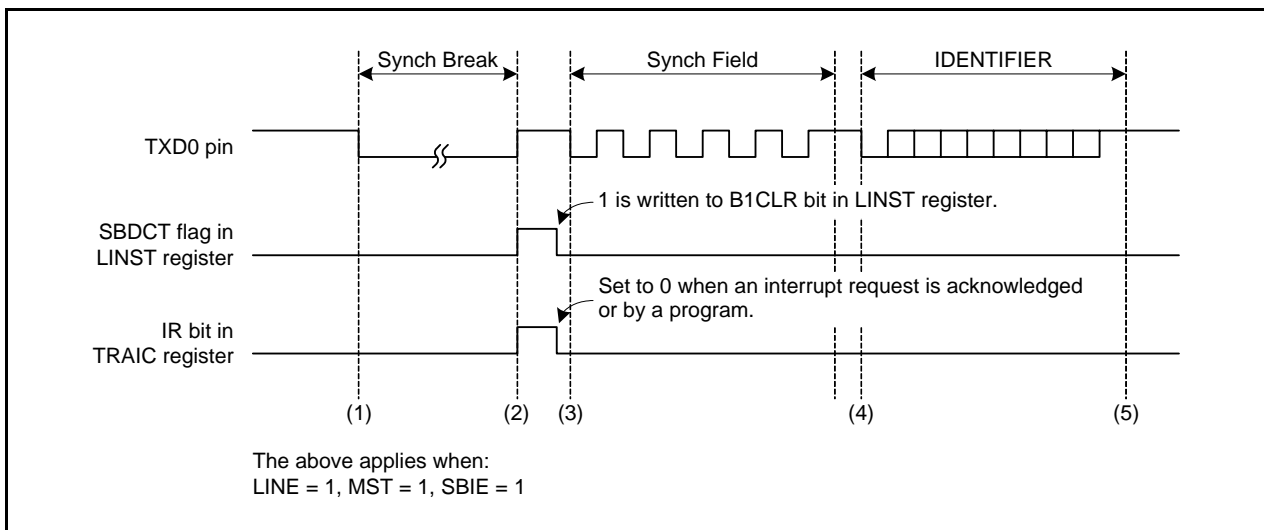
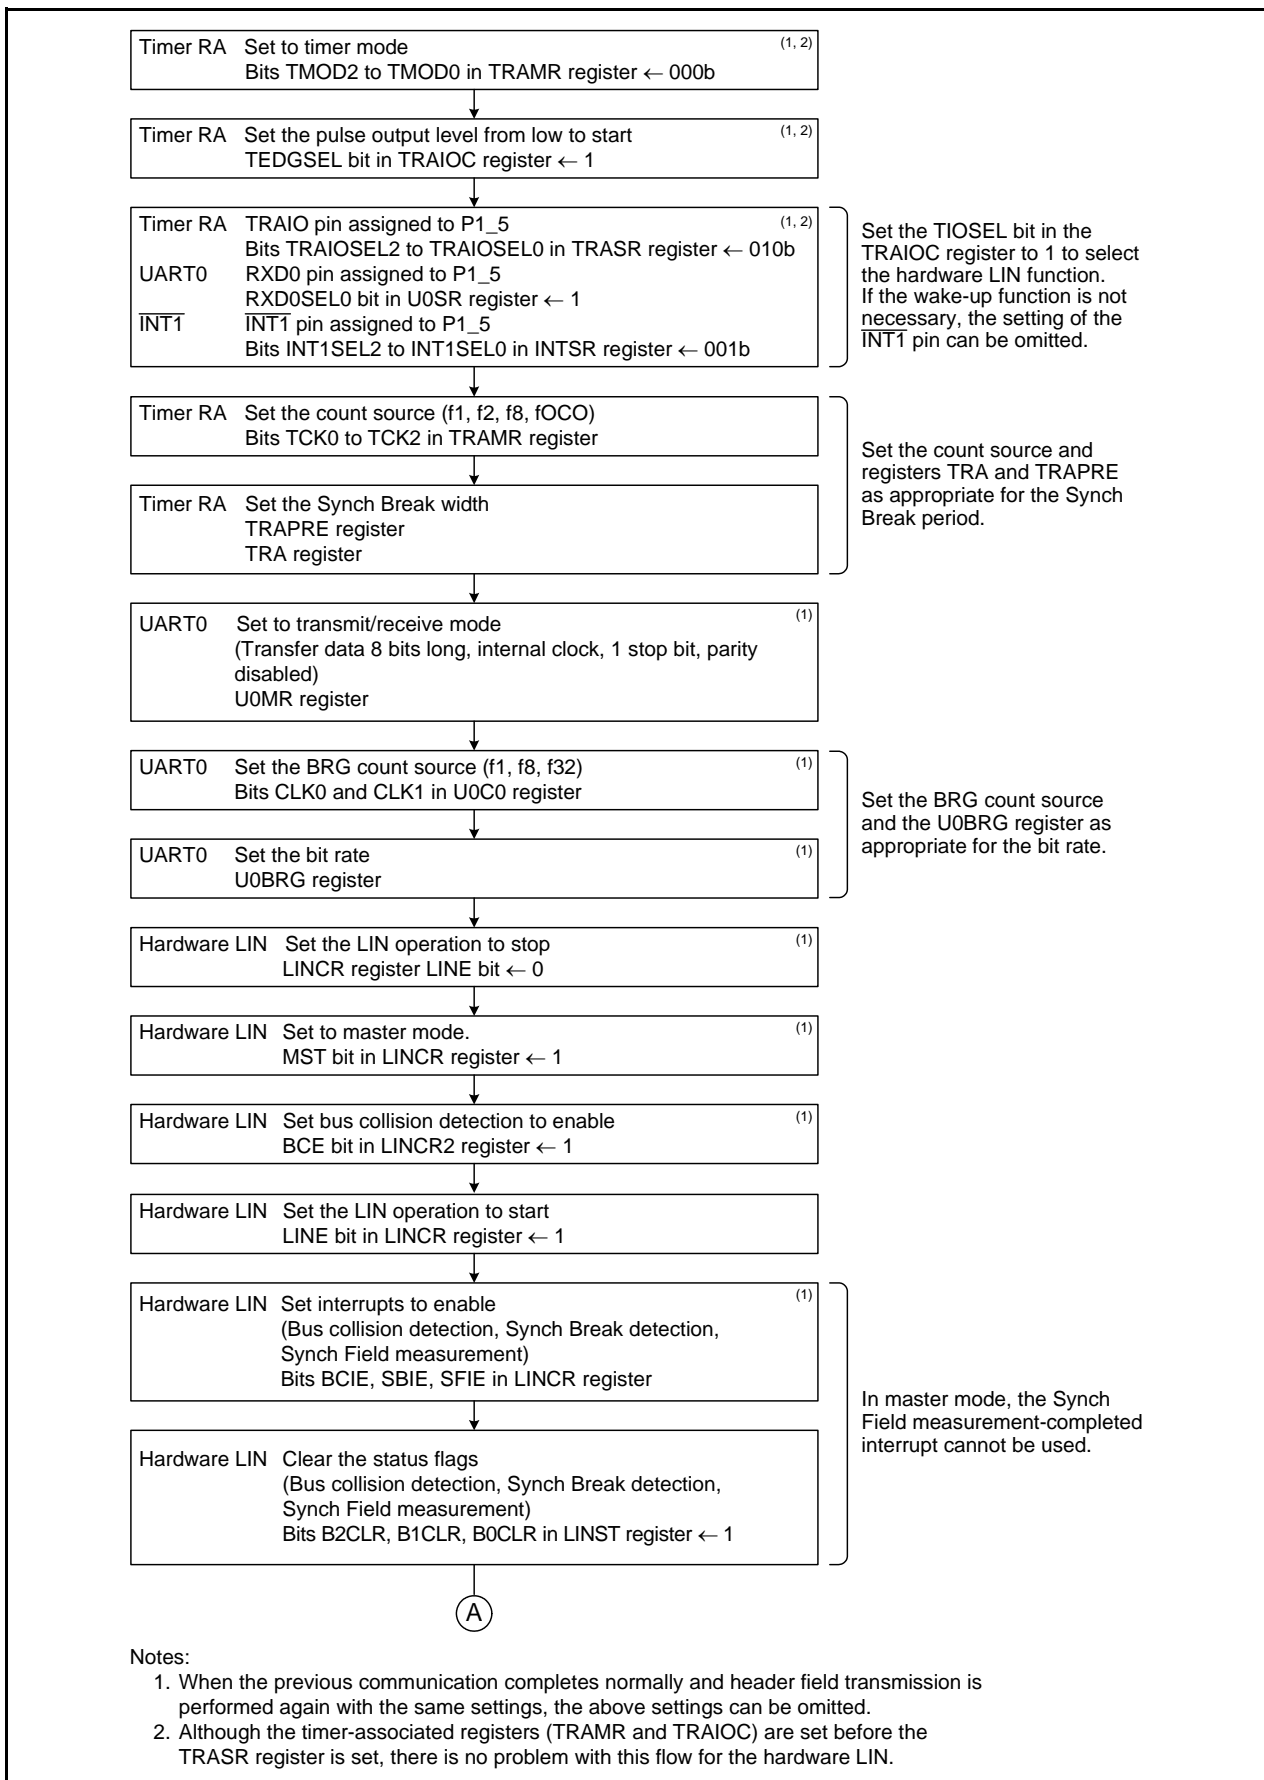

Figure 29.2 Operating Example during Header Field Transmission
Figure 29.3 Header Field Transmission Flowchart Example (1)
3. Inputs to timer RA and UART0 are disabled immediately after the LINE bit is set to 1 (LIN operation starts) (refer to **Figure 29.3 Header Field Transmission Flowchart Example (1)** and **Figure 29.7 Header Field Reception Flowchart Example (2)**).
Figure 29.2 shows an Operating Example during Header Field Transmission in master mode. Figures 29.3 and 29.4 show Examples of Header Field Transmission Flowchart.